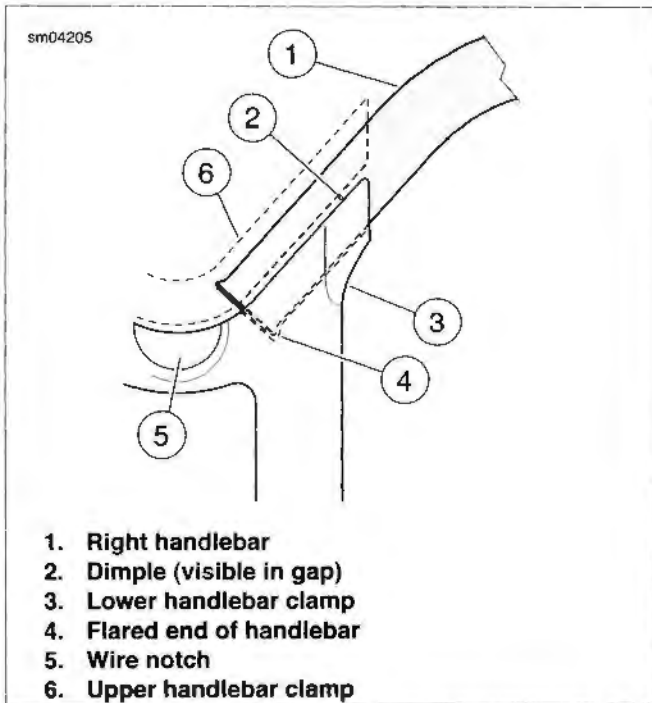
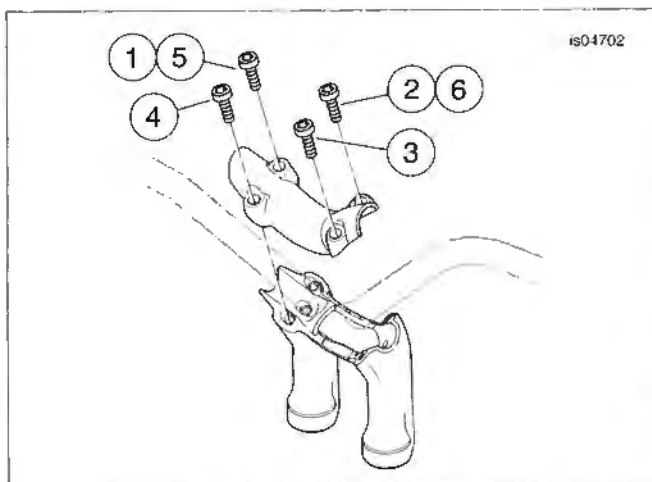

Figure 2-100. Aligning Handlebar
Figure 2-101. Handlebar Clamp Screw Tightening Sequence
8. See Figure 2-100. Place handlebars (1) on lower handlebar clamp (3). Route the wire bundles through the notch (5) in the lower handlebar clamp and down through the opening in the center of the upper steering bracket.
9. Install upper handlebar clamp (6) but do not tighten clamp fasteners at this time. Ensure the flare (4) at the end of each handle bar is properly seated in the handlebar clamp.
10. Align the dimple (2) on each handlebar with the lower gap between the lower clamp (3) and upper clamp (6).
11. Tighten handlebar clamp screws in sequence shown in Figure 2-101. Tighten to 12-15 ft-lbs (16.3-20.3 Nm)